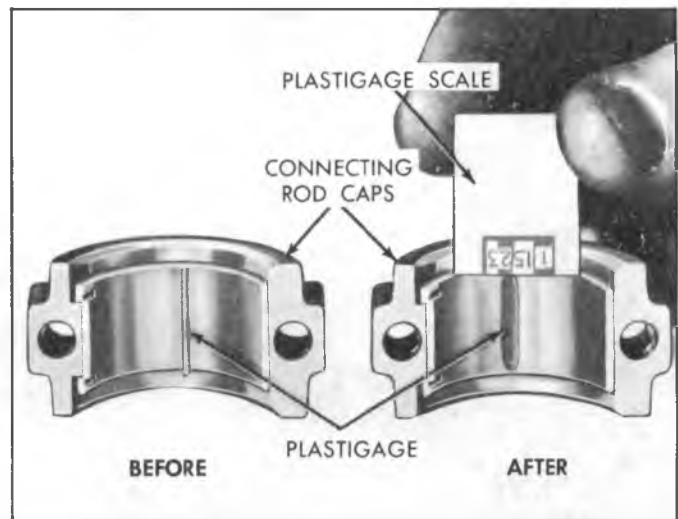

Fig. 14G—Checking Clearance Using Plastigage
### Checking Clearance by Plastigage Method (Refer to Figure 14G)
To check fit of bearings on crankshaft, install bearing inserts into connecting rod. Clean the crankshaft journals and the inserts so that all oil is removed. Plastigage is soluble in oil, therefore oil will affect the accuracy of the reading. Plastigage is placed on the lower half of the bearings (fig. 14G).
**IMPORTANT:** To check clearance properly, using Plastigage, it is essential to not move the connecting rod or crankshaft. Install connecting rod caps and tighten connecting bolt nuts to torque. This should flatten Plastigage to not less than 0.0003" or not more than 0.0021". Check measurement on Plastigage scale (fig. 14G). Replace bearing inserts if clearance is excessive, or if bearings are cracked or flaked.